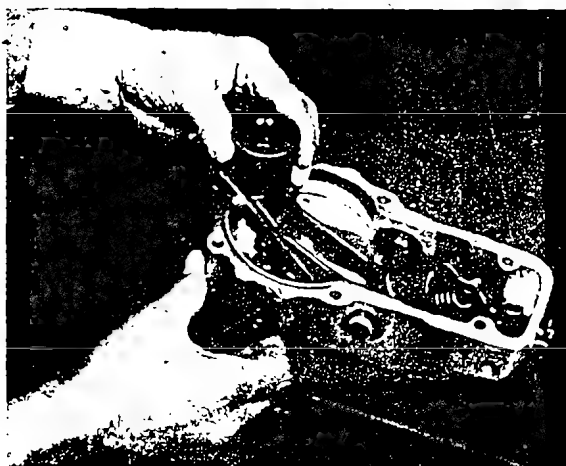
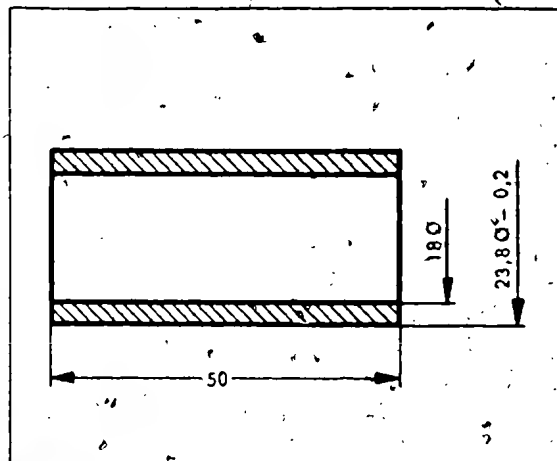

Fig. 13 Removing the guide lever
Fig. 14 Auxiliary bush to be made on site
2.2. 7. Manoeuvre guide lever (36) together with governing lever (43) and starting spring (86) as well as knuckle (control plunger) (31) and guide bush (94) as a complete unit **downward** from under swivel lever (50) and remove (Fig. 13). Unhook knuckle from guide lever. If necessary dismantle governing lever from guide lever and also link (48) from governing lever taking care not to lose the starting spring. If guide bush (34) requires replacement or reconditioning, press out knuckle (31) complete with deep-groove or shoulder contact ball bearing (32) and shims (33) using suitable auxiliary bush (Fig. 14). If the knuckle is damaged, this must also be pressed out of the deep-groove or shoulder contact ball bearing taking care not to damage or lose the shims (33).